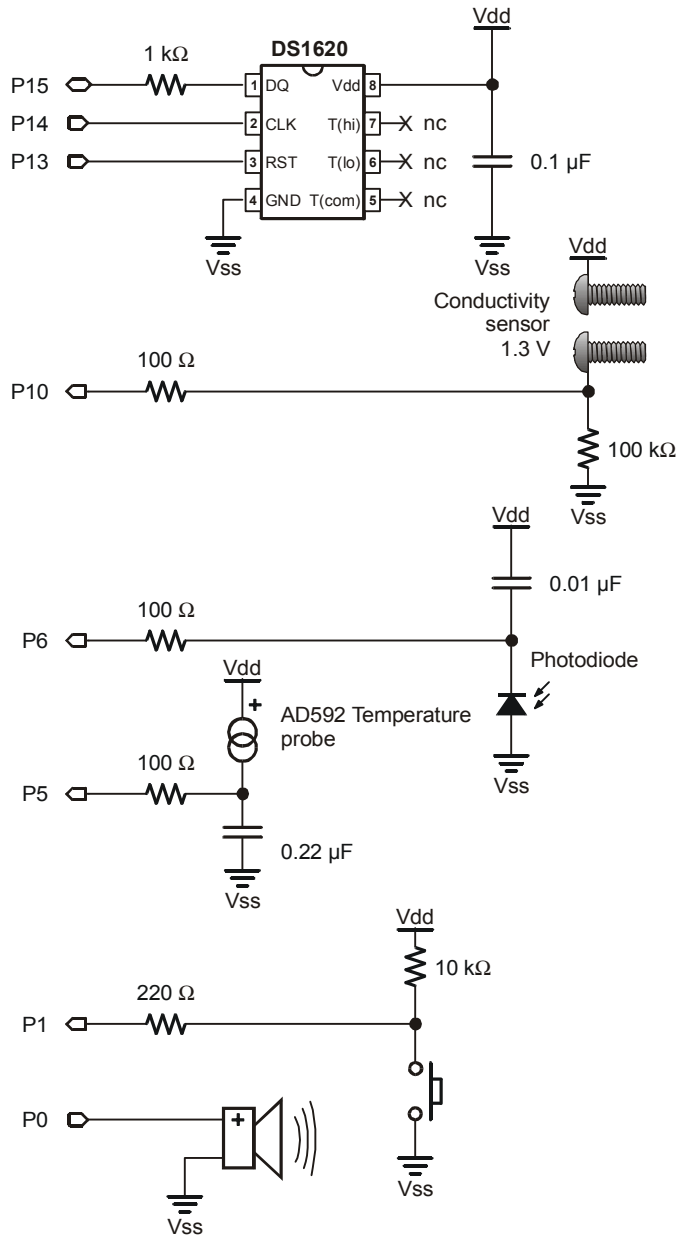

Figure 5-1
- √ Build the circuit shown in the schematic (Figure 5-1) and wiring diagram (Figure 5-2).